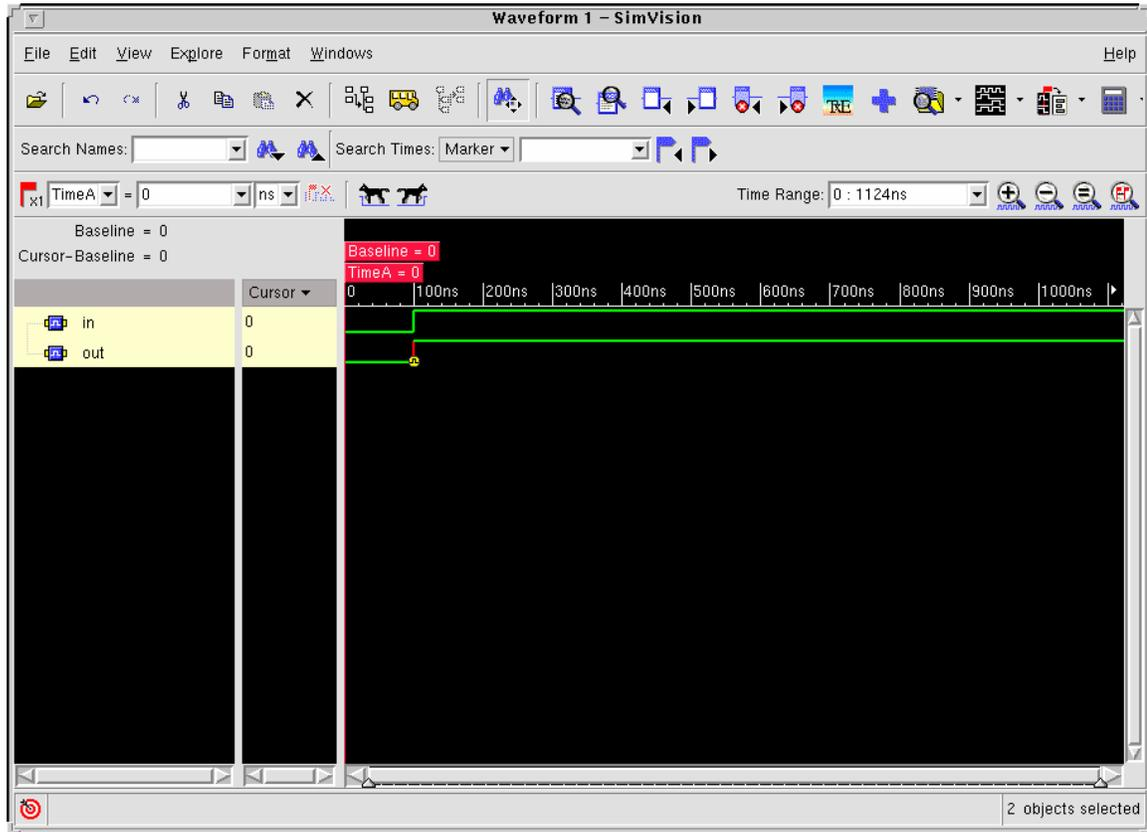

Fig 22: Waveform 1- Simvision
- j. Now “ Waveform 1 – Simvision “ window opens as shown in Fig 22